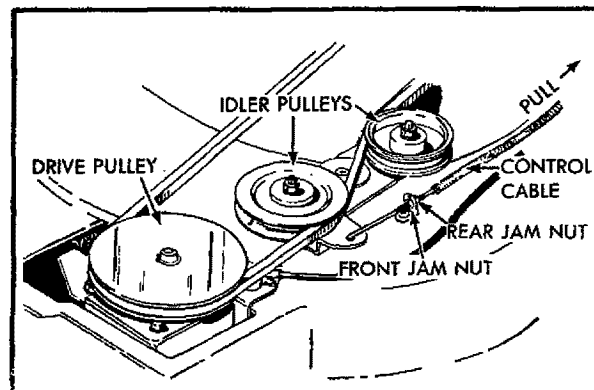

FIG. 24
3. Loosen both jam nuts on cable end (See Fig. 24).
4. Pull on control cable until belt is snug and tighten rear jam nut up to bracket, then turn jam nut (2) full turns.
5. Turn front jam nut up to bracket, then hold the rear jam nut with 1/2" wrench while tightening the front jam nut with a 1/2" wrench (See Fig. 24).
6. Put drive cover back in place, removed in step (2) above.